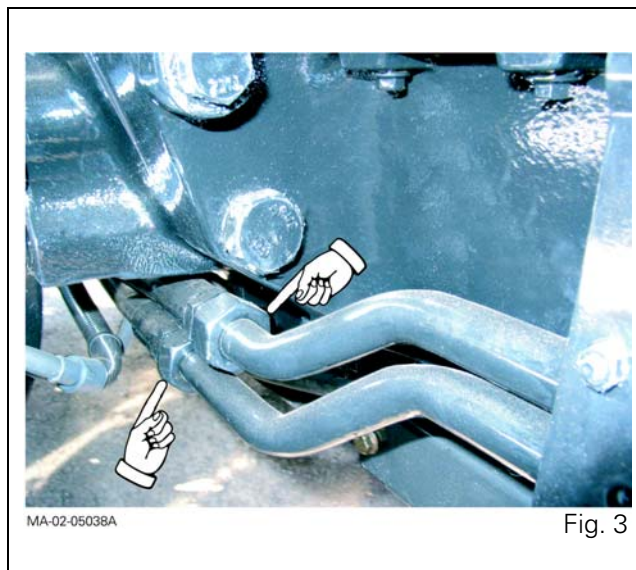

Fig. 3
- the lubricating hoses (running to and from the cooler) (Fig. 3)